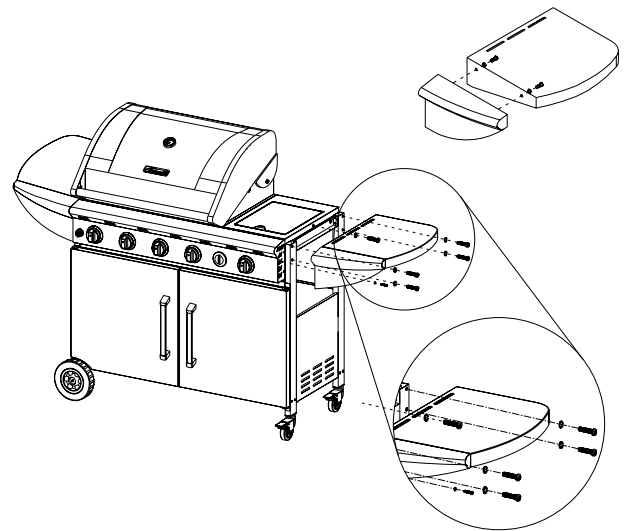

Figure 16
2. Assemble right side shelf front panel using (2) 5/32 x 3/8" Phillips head screws with (2) 5/32" lock washers. Then attach right side shelf to cart leg using (5) 1/4 x 1/2" Phillips head screws and (5) 1/4" lock washers. Then use (1) 5/32 x 3/8" Phillips head screw and (1) 5/32" lock washer to attach side burner control panel to main control panel. (Fig.16)